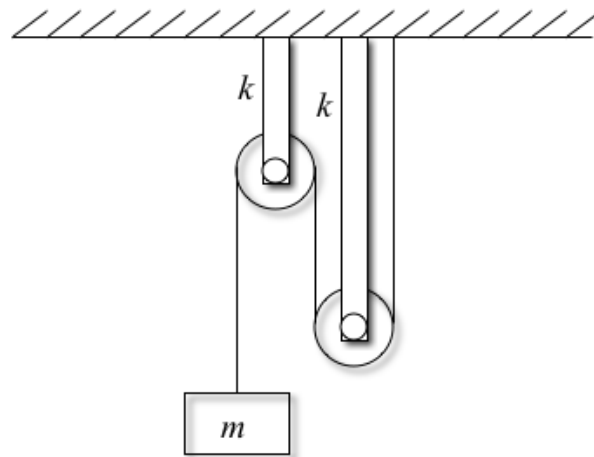

Figure P1.85
- 1.85** Use Lagrange's formulation to calculate the equation of motion and the natural frequency of the system of Figure P1.85. Model each of the brackets as a spring of stiffness k , and assume the inertia of the pulleys is negligible.